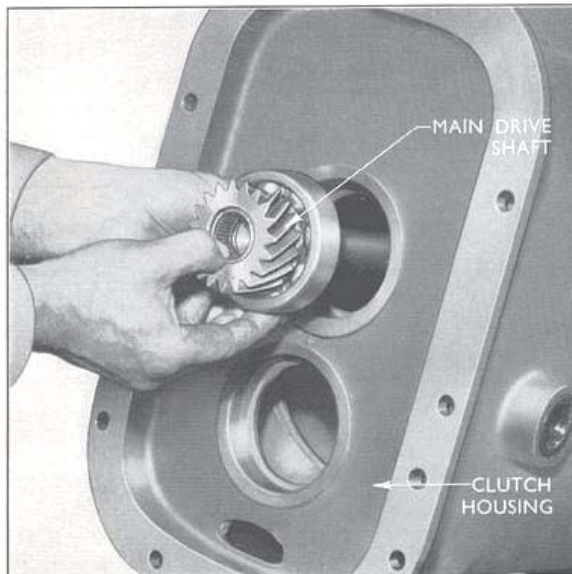

Fig. 7
6. Extract the circlip retaining the main drive shaft ball bearing to the clutch housing and withdraw the shaft and bearing assembly (see Fig. 7).